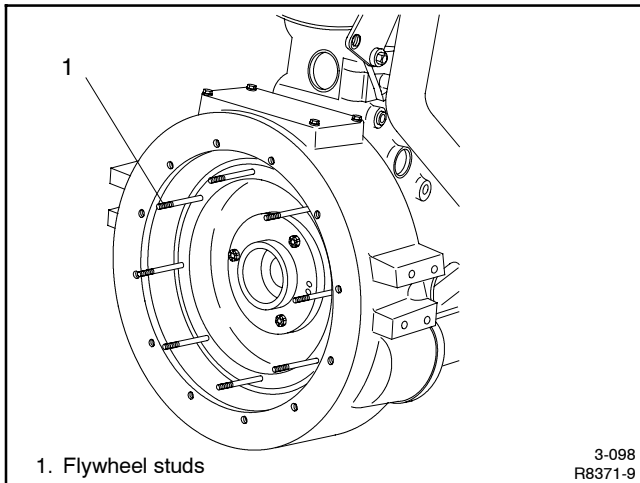

Figure 4-21 Flywheel Studs
21. If studs are used, apply Loctite® No. 271 red to stud threads and install into flywheel as shown in Figure 4-21. Install studs completely into flywheel. Apply Loctite® No. 242 blue to stud threads on nut side.